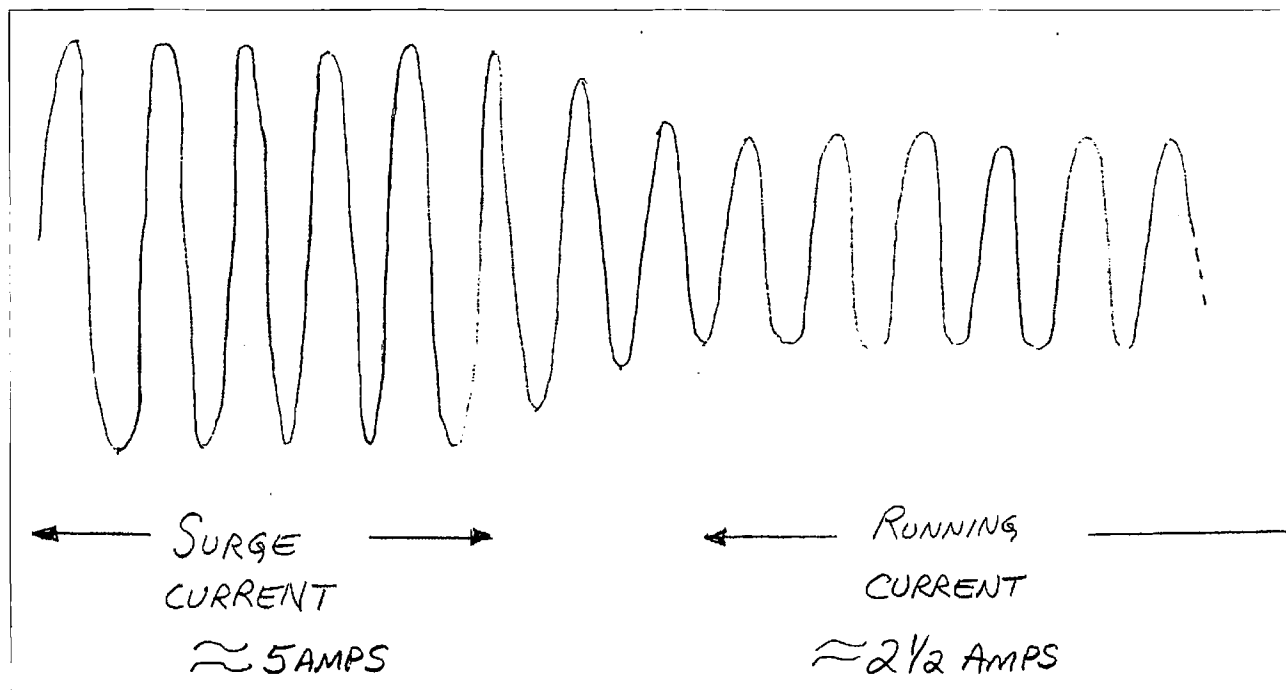

Fig. 1. Current display on a storage oscilloscope.
Step 3. Start the motor again, allowing the trace to complete one sweep. The waveform should look something like **Fig 1**. Note that the waveform is higher in amplitude at the extreme left of the screen and quickly settles to a lower value for the rest of the sweep. The higher amplitude is the starting current and the lower amplitude is the running current.